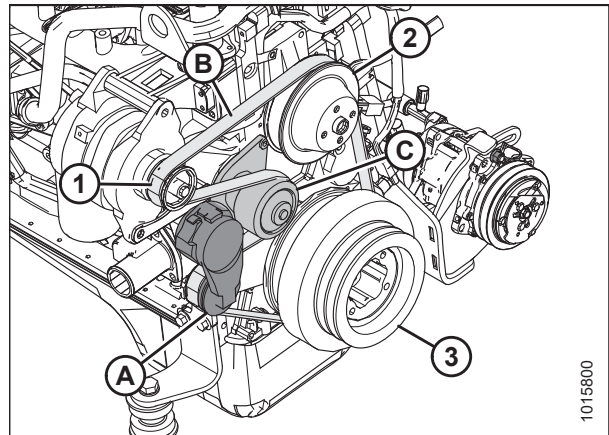

Figure 5.165: Engine Belt
5. Insert the drive end of a 1/2 in. drive ratchet wrench into belt tensioner (A).
6. Rotate tensioner counterclockwise until fan belt (B) can be slipped off pulley (C). Release tensioner and remove wrench.
7. Remove belt in order 1, 2, 3, as shown in Figure 5.165, page 352.
8. Insert the drive end of a 1/2 in. drive ratchet wrench into belt tensioner (A).
9. Rotate tensioner counterclockwise until belt (B) can be slipped onto pulley (C). Release tensioner and remove wrench.